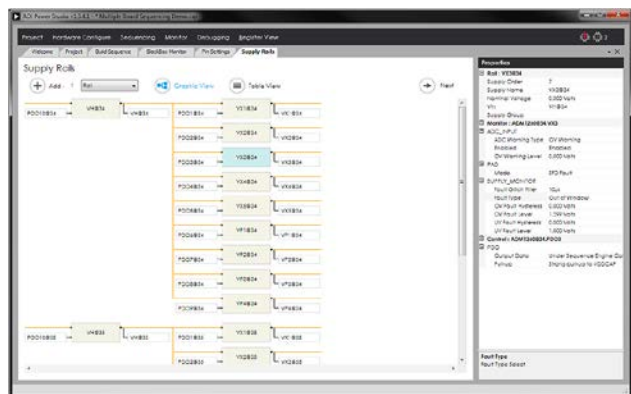

Figure 11. Supply Rails Tab
The input undervoltage (UV) and overvoltage (OV) thresholds can be modified by clicking the **Hardware Configure** tab and selecting the **Supply Rails** tab. The **Supply Rails** tab, as seen in Figure 11, shows a summary of all the voltage inputs and the PDo outputs used for enabling the voltage rails. The supply monitor configuration, such as OV, UV, and PDo, can be modified in the **Properties** menu on the right side of the window.